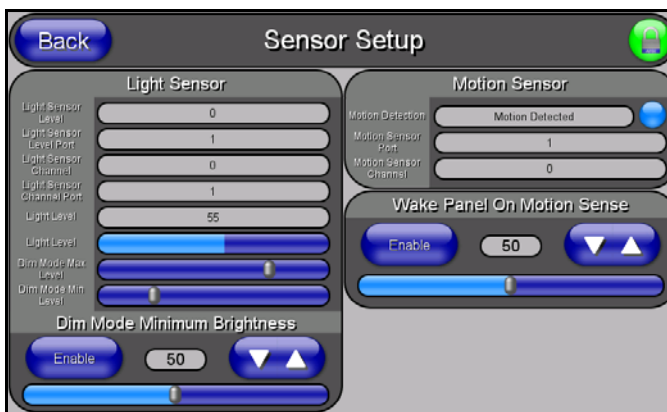

FIG. 70 Sensor Setup page
The Sensor Setup page (FIG. 70) allows you to adjust the Light and Motion Sensor parameters on a Modero touch panel.
3. Open the Sensors Setup page (FIG. 70) from the Protected Setup menu section.